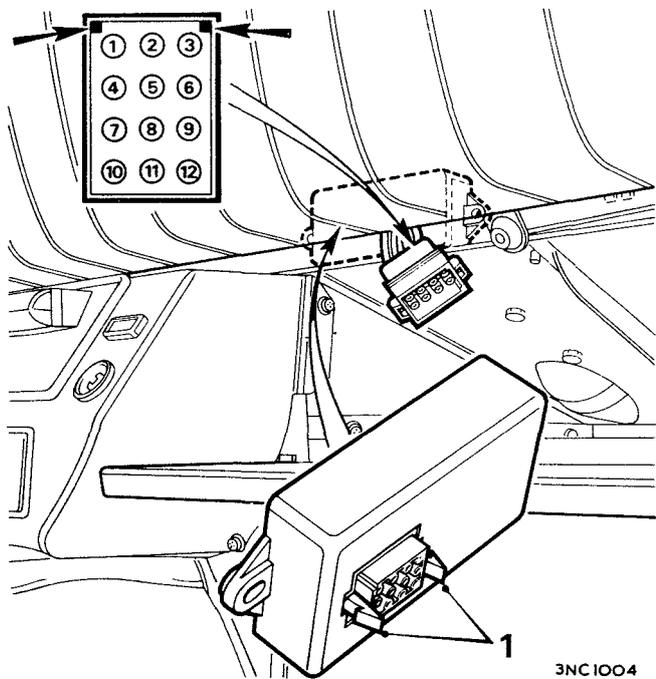

Fig. Nb.11
6. Compress the two retaining tags (see Fig. Nb.11) on the seat belt system control unit and disconnect the wiring plug from the control unit.
Referring to Figs. Nb.11 and Nb.12 for circuit diagram and wiring harness plug pin identification numbers, carry out the following test procedure using a 12-volt 2-2-watt test lamp and a length of insulated cable.